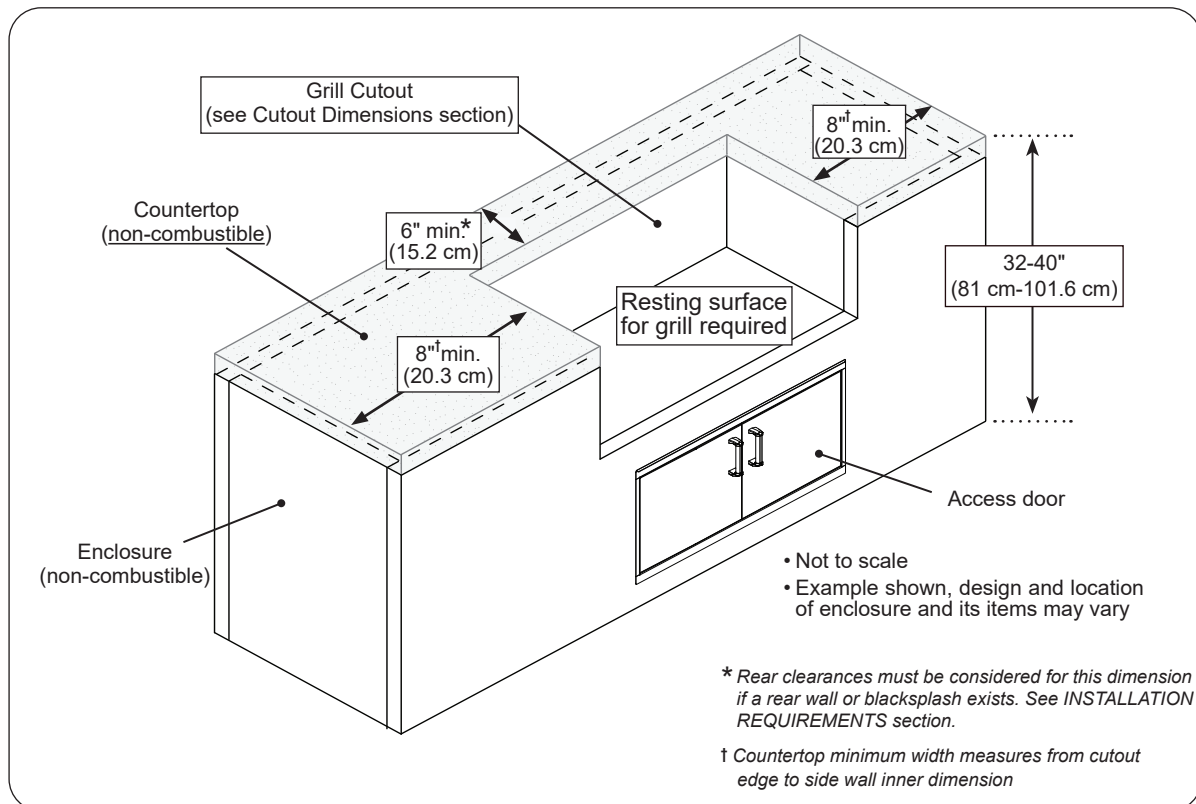

Fig. 4-1 Enclosure specifications
The enclosure can be constructed according to your individual preference, while following all guidelines found in this manual. **The enclosure MUST (see Fig. 4-1):**
- have the minimum dimensions specified in Fig. 4-1
- meet all requirements found in Fig. 4-1 and the following sections